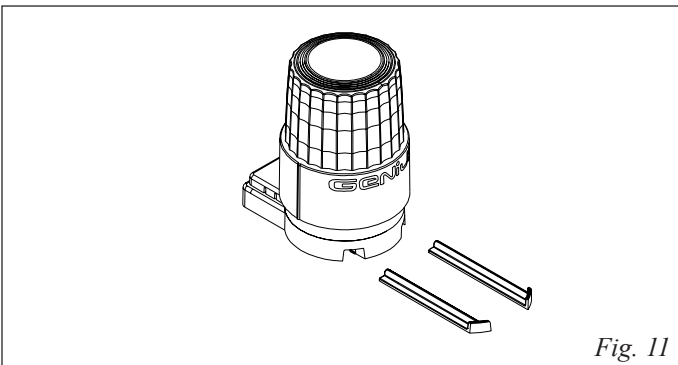

Fig. 11
13- Montare le due slitte anteriori come in Fig. 11.
- 13- Fit the two front slides as shown in Fig. 11.